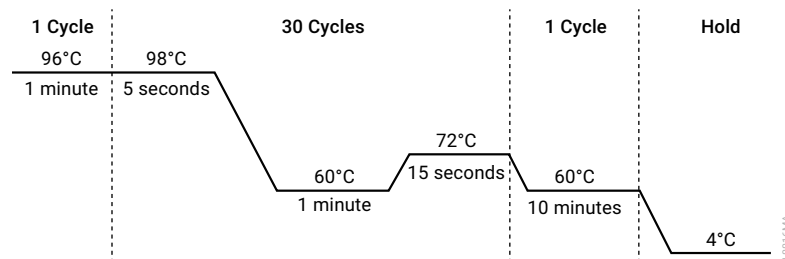

Figure 1. The thermal cycling protocol for the ProFlex® PCR System.
- Select and run the protocol provided below and in Figure 1. The total cycling time is approximately 70 minutes.